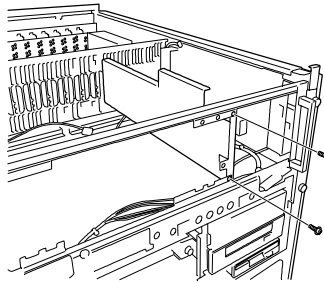

Figure 4-19. Removing the CPU Support Bracket Screws
9. Remove the two screws securing the CPU support bracket to the BSU chassis and remove the bracket, see Figure 4-19.